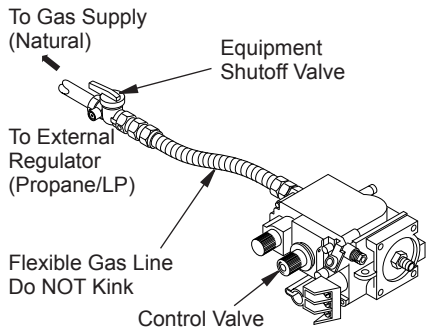

Figure 39 - Connecting Flexible Gas Line to Millivolt Valve
3. Attach flexible gas line from gas supply to control valve (see Figure 39).